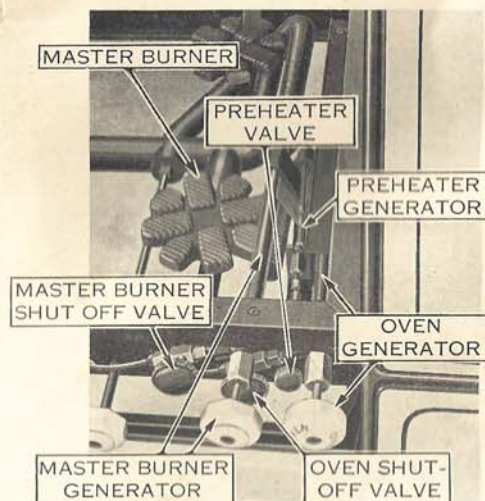

Fig. 3
1. See that *Fuel Valve*, the two *Shutoff Valves*, the two *Generator Valves* and *Preheater Valve* are closed. (See Figs. 3 and 4.)
3. Next open *master burner shutoff valve* (Fig. 3).
1. **Caution**—Before starting to pump, be sure both *generator valves*, the two *shutoff valves*, *fuel valve*, and *preheater valve* are closed (see Figures 3 and 4.)
1. Open *preheater valve* (see Fig. 3) several turns to the left (give it the gas).
1. See that tank *fuel valve* and *oven shutoff valve* are open—but that *oven generator valve* is closed. (See Fig. 3).